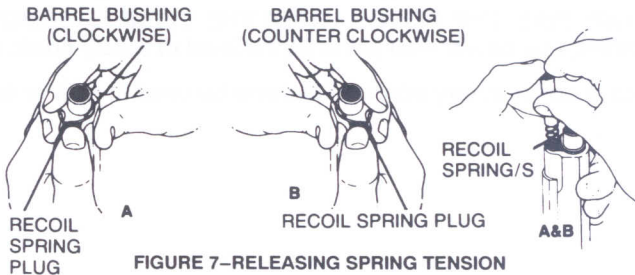

FIGURE 7—RELEASING SPRING TENSION
3. **(A)** Push slide back about $\frac{1}{4}$ inch, press down on recoil spring plug (located just below muzzle) and at same time rotate barrel bushing **clockwise** about $\frac{1}{4}$ turn, using barrel bushing wrench if necessary; this will free plug and recoil spring. Keep pressure on plug to prevent it being ejected by the spring, then allow plug and spring to gradually extend out of the slide. (See Figure 7).
3. **(B)** Press down on recoil spring plug (located just below muzzle) and at same time rotate barrel bushing **counterclockwise** about $\frac{1}{4}$ turn (See Figure 7); then pull bushing forward and out. Using a screwdriver, push the recoil spring plug in and turn it about $\frac{1}{2}$ turn to left or right. (See Figure 8). Control the spring force as you carefully allow the plug and two recoil springs to extend out of the slide. Remove plug from springs. (See Figure 7).
Install the barrel bushing over the recoil spring plug and into the slide. Press down on the recoil spring plug and at the same time rotate the barrel bushing clockwise about a $\frac{1}{4}$ turn to lock it over the plug, (See Figure 7, page 34).